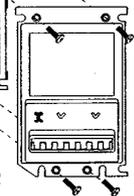

FIGURE 3
- 4.) Install the modified plastic bezel 42-7054-00 (See Figure 3). The angles on the steel mounting plate and the plastic bezel should line up with each other if both items are installed correctly.